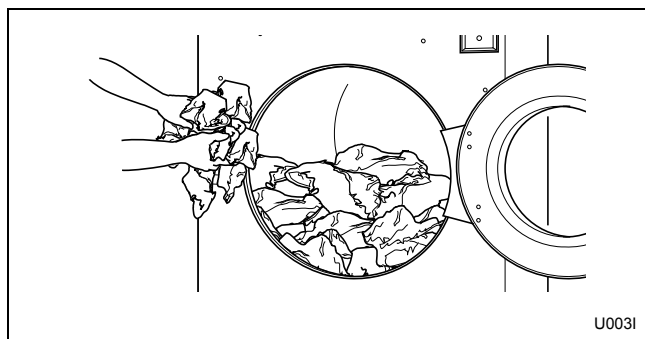

Figure 55
3. Load to capacity whenever possible. DO NOT OVERLOAD. Refer to *Figure 55*.